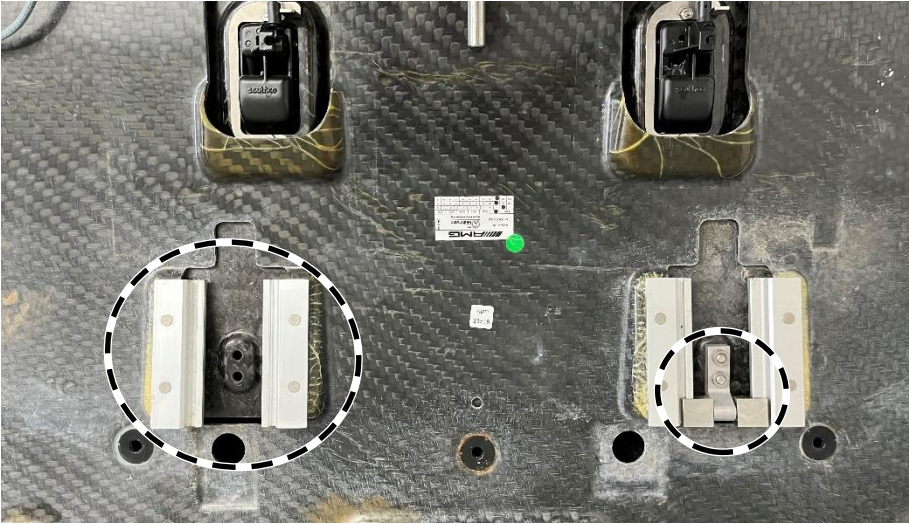

Figure 10
5. Disassemble both diffuser guides (figure 10).